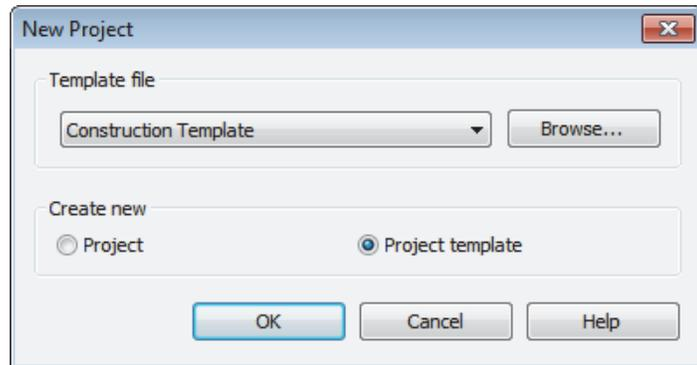

Figure 1–2
3. In the *Create new* area, select **Project template**, as shown in Figure 1–2.